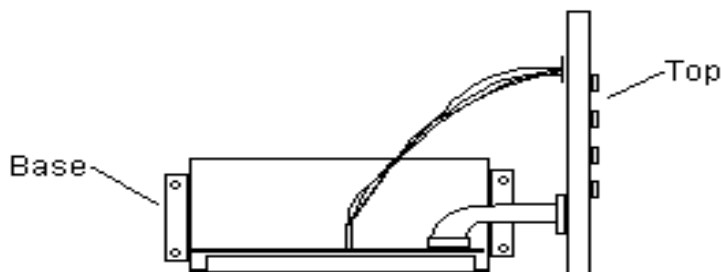

Figure 2
- ❑ With your hands/fingers on each side of the top lift it up about 1" and tip it to the right to a vertical position and set the cover on its right edge right next to the right side of the base - see fig. 2. This is done in this manner to prevent disconnecting or pulling on the two cables that interconnect the two parts. Prevent the top from falling over by holding it upright with your right hand - or have someone else hold it. DO NOT disconnect either of the two cables and DO NOT try to lay the cover down.